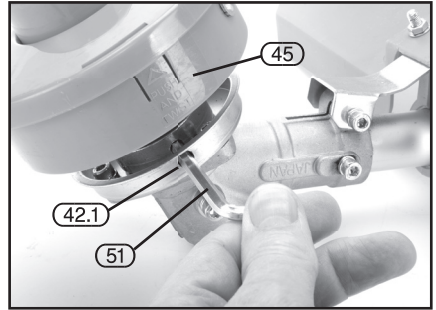

FIG. 42
16.7 MAINTAINING THE SPOOL - FIGS.42 - 45
16.8 REMOVING THE COMPLETE SPOOL ASSEMBLY - FIG.42
- Using the supplied hex. key (51), lock the spindle to stop it from turning. It may be necessary to turn the spool assembly before the hex. key fully engages all the way.
- With the spindle held fast, unscrew the spool assembly (45) anticlockwise.